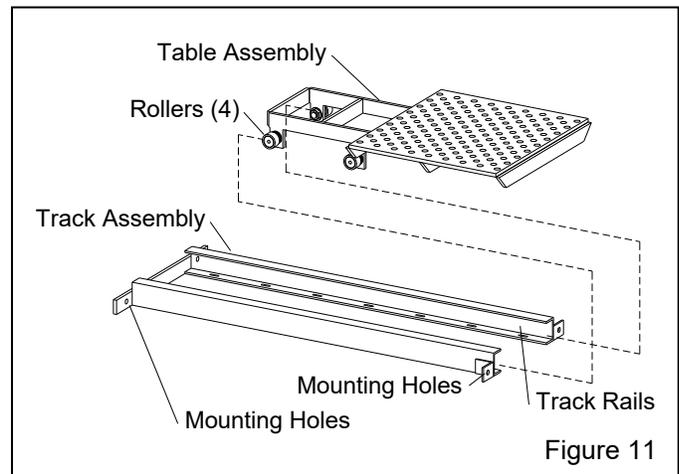

Figure 11
**3.5.2** Combine the table assembly and track by sliding the table assembly rollers into the track channels, as shown in Figure 11.